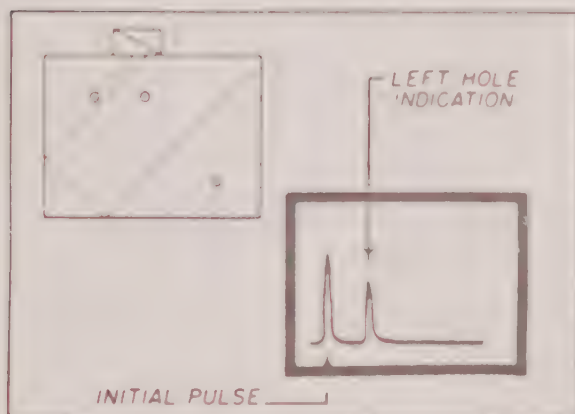

Figure 3-16 Reflection From Small Left Hand Hole
- j. Continue moving the search unit along the block until patterns similar to those shown in Figures 3-16 , 3-17 and 3-18 are obtained.